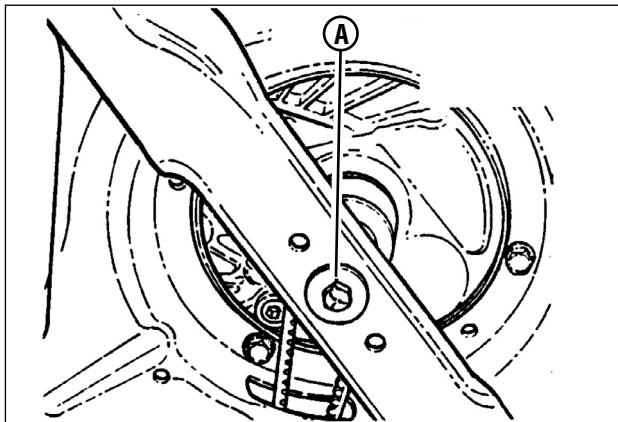

Figure 17: Tightening the blade cap screw
2. Tilt the mower up on its rear wheels for access to the blade cap screw (**A**, **Figure 17**). Do not tilt the mower with the spark plug or carburetor down.